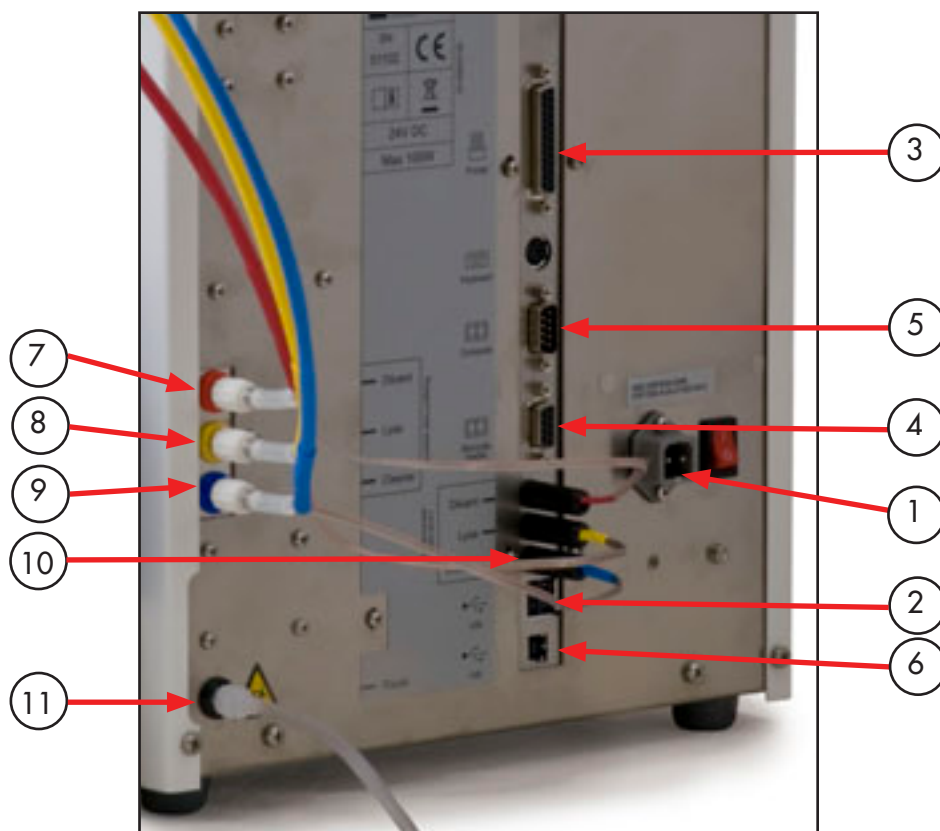

Figure 6.3
1. Connect the power cord to the back of the analyzer, but do not plug it into an electrical socket. Make sure power switch is off ("O"). (#1, Figure 6.3.)
- Epson C88+ protocol compatible through USB cable (supplied by Heska as an accessory); OkiData protocol compatible through either the USB cable or the parallel cable (#2 for USB cable, #3 for parallel cable, Figure 6.3).
3. Connect the barcode reader cable (#4, Figure 6.3).
4. Connect a PC cable, if applicable. (#5 for serial connection, #6 for USB connection, Figure 6.3).
1. Connect the Diluent reagent tube assembly (red) to the analyzer. (#7, Figure 6.3)
2. Connect the Lyse reagent tube assembly (yellow) to the analyzer. (#8, Figure 6.3)
3. Connect the Cleaner reagent tube assembly (blue) to the analyzer. (#9, Figure 6.3)
4. Plug the Diluent, Lyse and Cleaner reagent level sensor plugs into the respective level sensor electrical inlets. (#10, Figure 6.3)
5. Connect the waste tube to the analyzer and plumb to waste container or drain. (#11, Figure 6.3)